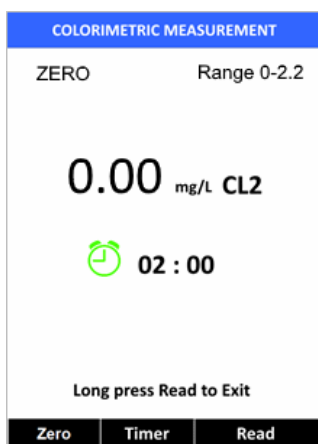

Figure 8. Colorimetric screen for chlorine measurement
1. Press **Measure** (the < key) to launch the measurement selection menu. Press the < key twice to highlight **COLOR** in the selection. Press **OK** to select the colorimetric screen (Figure 8).